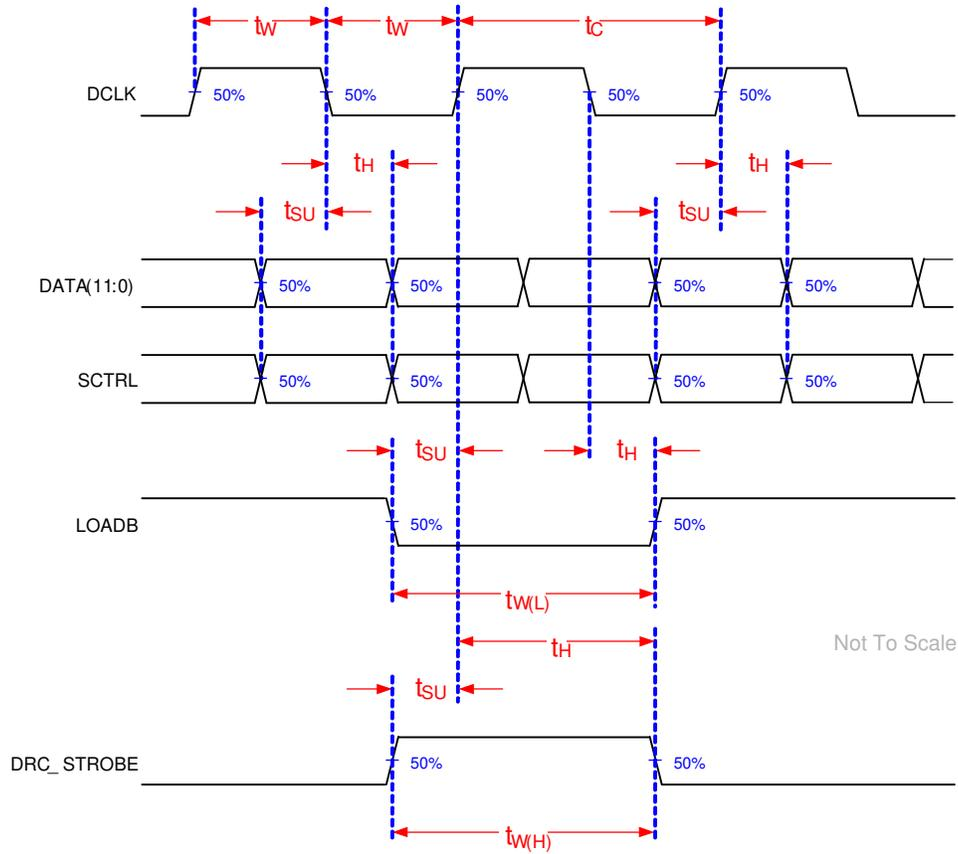
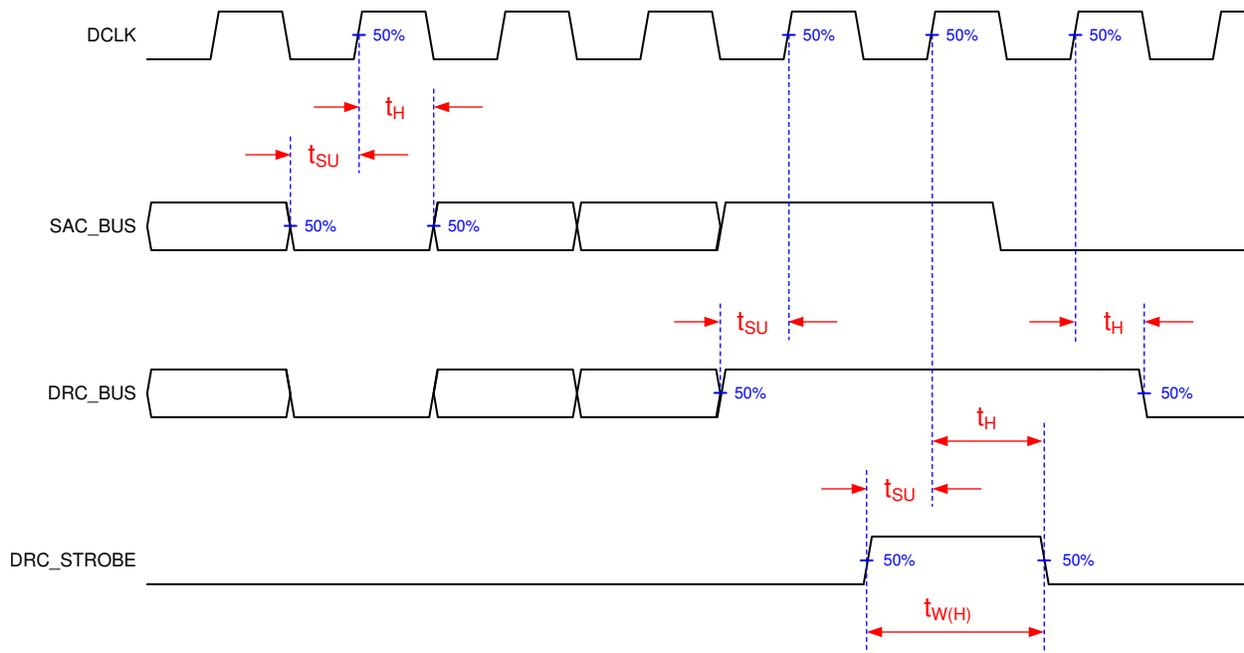

Figure 6-2. Switching Parameters 1
Figure 6-3. Switching Parameters 2
- (1) Refer to Figure 6-2 and Figure 6-3.